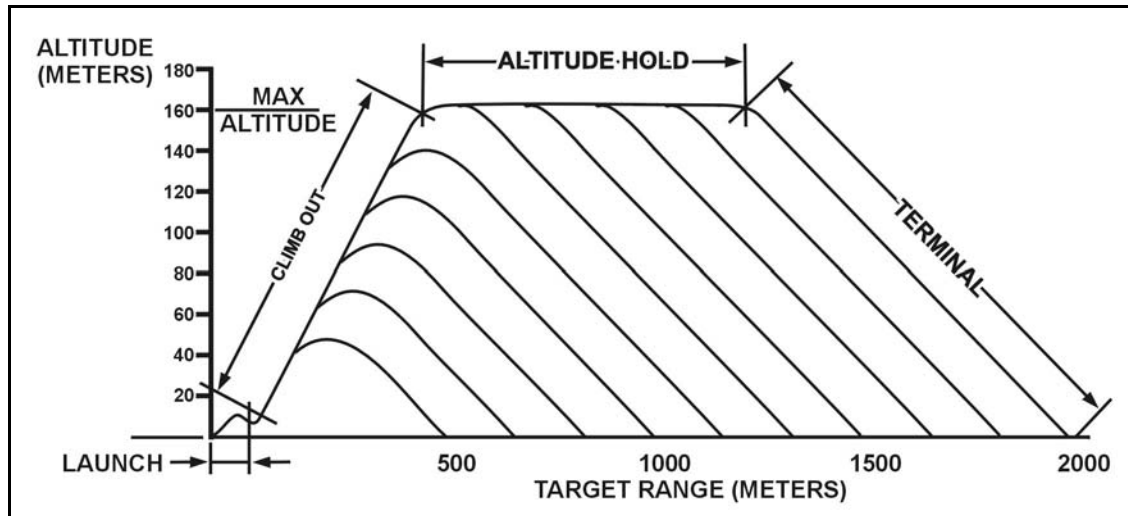

Figure 1-27. Top attack flight path.
(2) The exact profile of the missile flight path depends on the range to the target and is determined automatically by the missile's onboard software). When firing at a 2,000-meter target, the missile reaches a height of about 160 meters above the battlefield (Figure 1-27). If the target is under a protective structure, using the top attack mode will cause the missile to detonate on the structure instead of on the target. The gunner can select the direct-attack mode to counter targets hiding under protective cover.